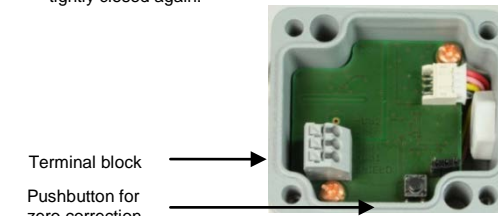

Fig. 3: Connection diagram
The DPT 100 can be zeroed via a button. To do so, press the button (Fig. 3) for about 3 seconds.
- Press the button (Fig. 3) for about 3 seconds.